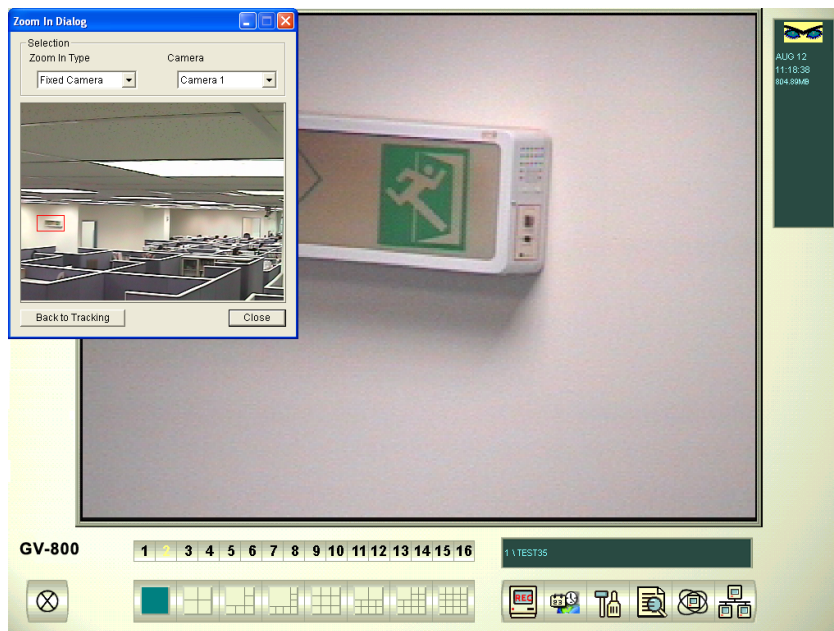

Figure 2-13 The Zoom in Dialog window
1. Click the Configure button, point to Object Tracking Application, and click Object Tracking View to open the Zoom in Dialog window, overlapping in the main screen. Refer to figure 2-13.